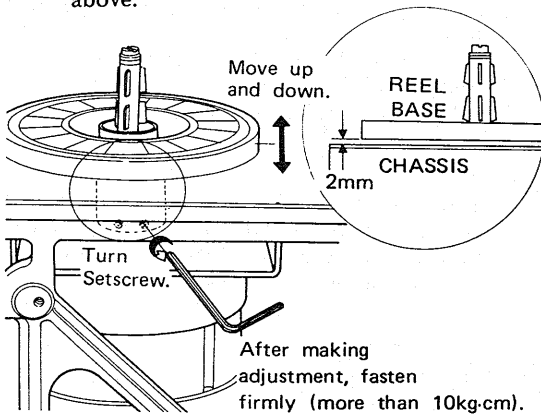

Fig. 18
2. Loosen screw to allow a clearance of 2mm between the panel and reel base as in Fig. 18.